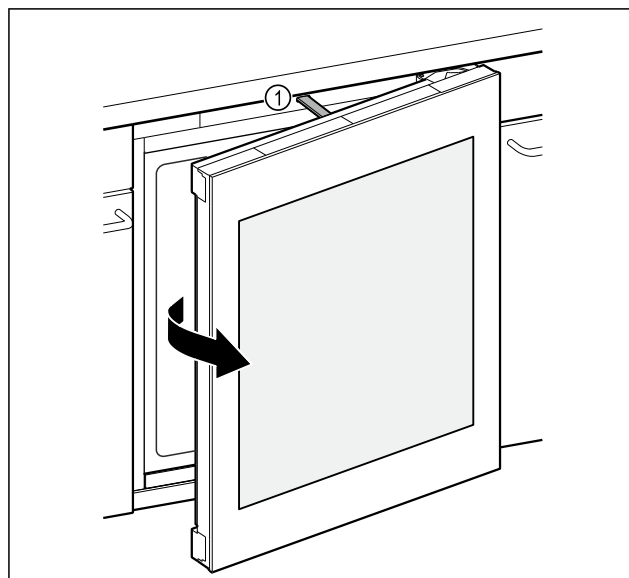

Fig. 88
- Push rod Fig. 88 (1) opens door approximately 7 cm.